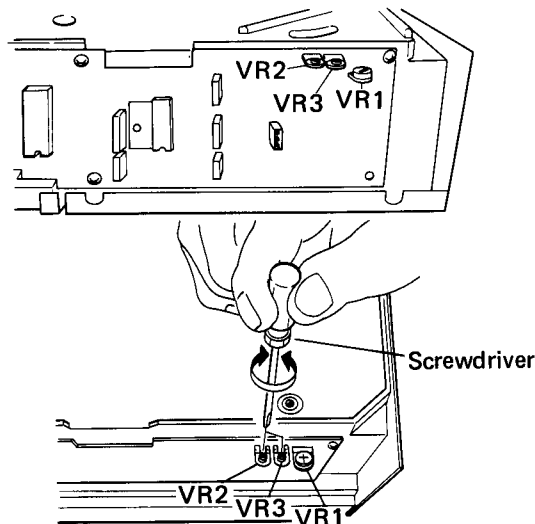

Fig. 9.4 Adjustment Position
6. The voltage difference is decreased by turning VR1 clockwise, and increased by turning counter clockwise (see Fig. 9.4).